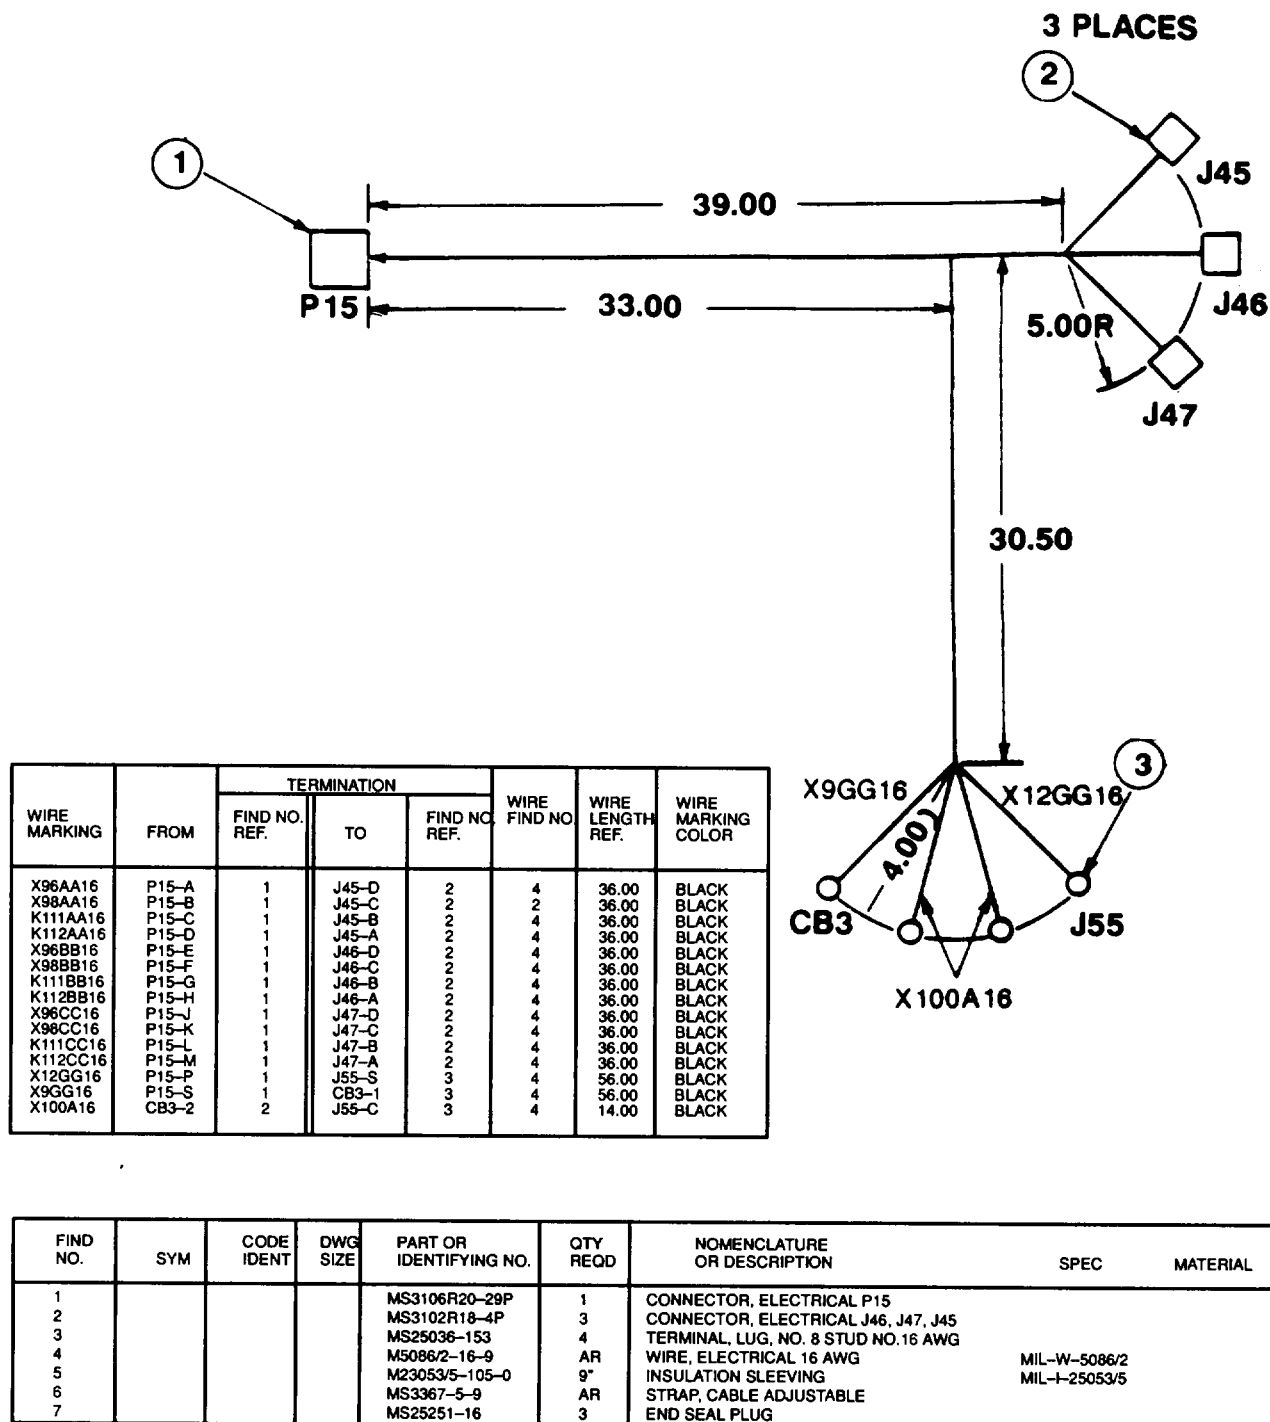

Figure 3-99. Convenience and Paralleling Receptacles Wiring Harness, Drawing No. 72-2286
b. If the wiring harness has sustained damage and requires repair or rebuild, refer to figure 3-99 for layout, identification, and material requirements and Appendix A for detailed soldering and replacement procedures.